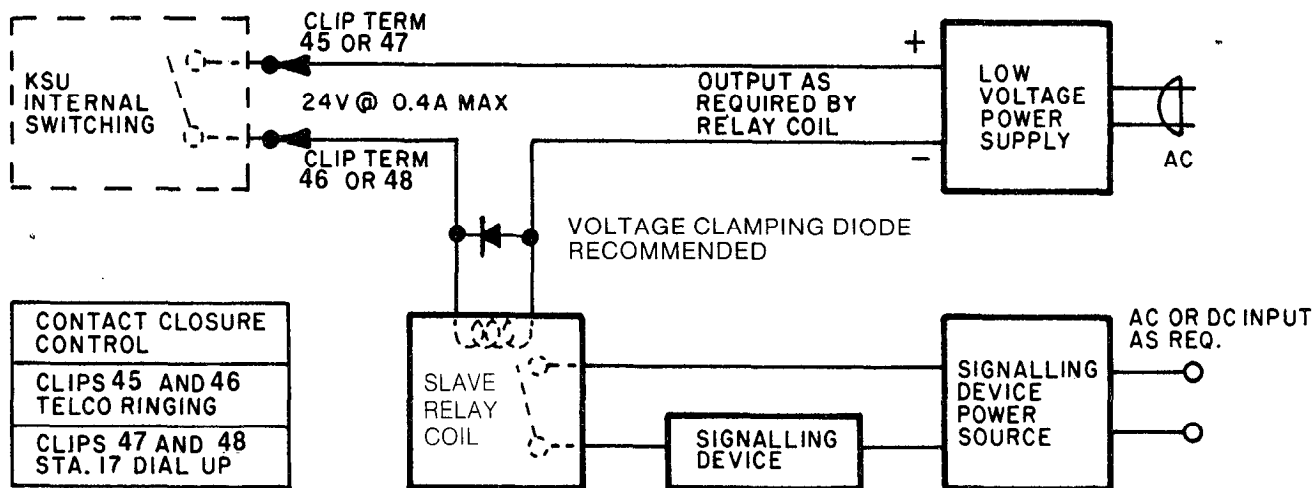

Figure 2a. Model 616B External Signalling - Typical Connection
Two sets of connection points are available which provide relay contact closures for external use. One set provides a relay contact closure whenever any of the TELCO lines, connected to the KSU, ring. The other set provides a relay contact closure whenever system station 17 rings. The provided contact closures track the ringing pattern in both cases. The contacts are closed during the ring on period and are open during the silent period. A typical connection to these terminals is illustrated in Figure 2a (model 616B) and Figure 2b (model 616). The function of these control terminals can be changed by system programming. Refer to the paragraph headed Dial Access Public Address (PA) Port for a discussion of the alternate function.